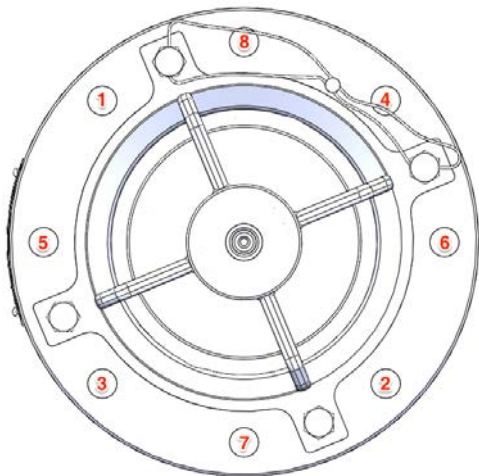

Figure 2-2 Tighten in Alternating Sequence
2.2.10 Install the nuts and tighten them in 1/3-torque increments in a diagonally alternating sequence to a torque specified by the gasket specified, as shown in in Figure 2-2 below. Consult gasket manufacturer for recommended torque requirements.